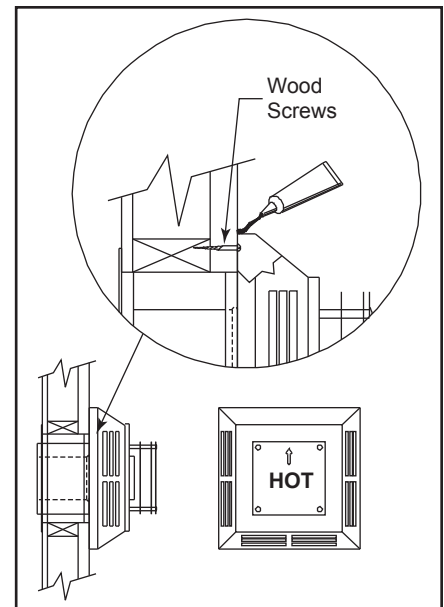

Figure 27
Step 4 - Position the horizontal termination cap in the center of the square framed hole, and attach to the exterior wall with the four (4) wood screws provided. Before attaching the vent termination cap to the exterior wall, run a bead of non-hardening silicone sealant around the outside edges to make a seal between the cap and the wall. The arrow on the vent cap should be pointing up. Ensure proper clearances to combustible materials are maintained, Figure 27.